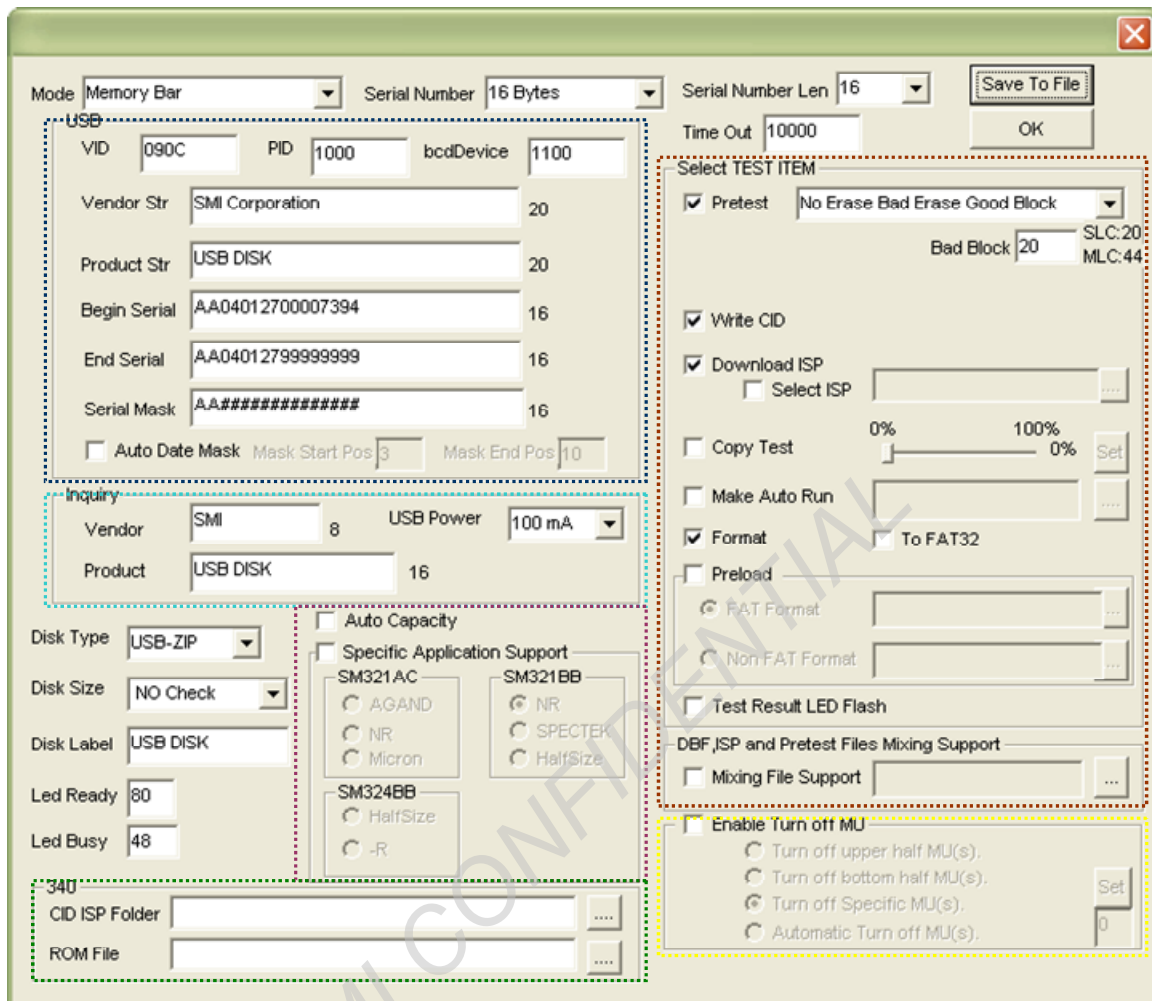

Fig. 4 The main frame for 「Setting Function」
■ Configuration:(see the Fig. 4)
- Step 3、After pressing the 「Start」 button, the program would start testing according to the test items selected in Fig. 4. In Fig. 11, the each port presents the Red 「X」 and 「Pretest Fail」 in the『Status』field besides Port-1. It presents the『FAIL』message in the right-top position because the『Port-2 to Port-5』is failed. If all ports pass the production, the right-top will present the『OK』message.